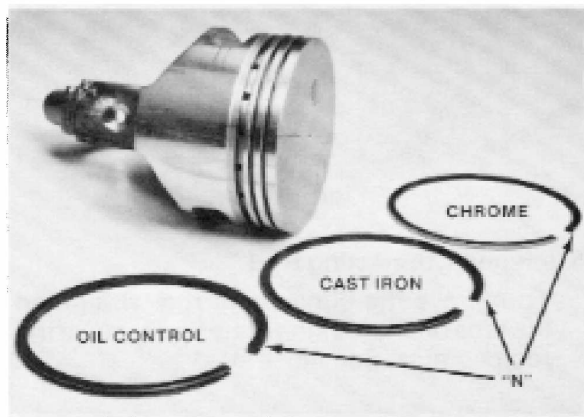

Figure 4-33
4. The rings are marked with the letter "N". The "N" should face up on correct installation. See Fig. 4-33.